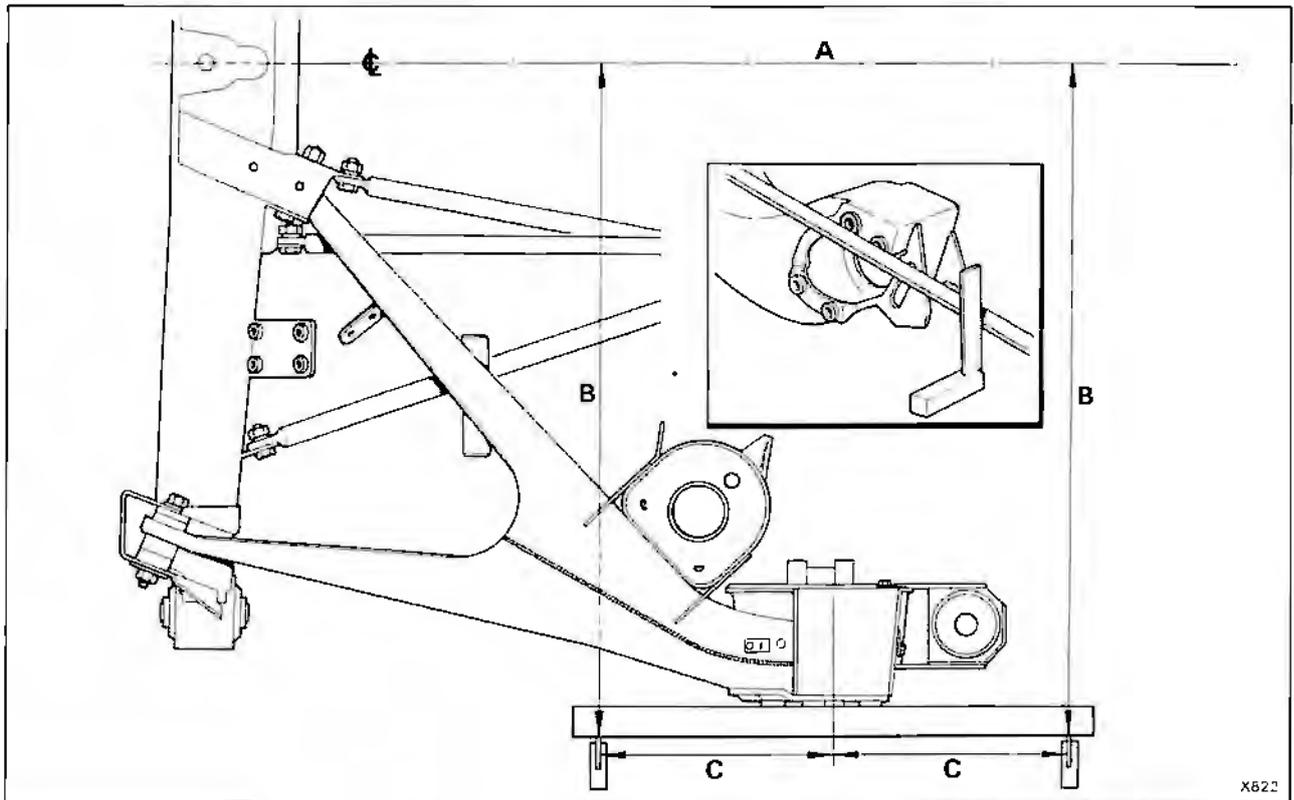

Fig. H11-4 Checking the toe-in setting
Toe-in – To check (see fig. H11-4)
3. Place a straight edge across the hub mounting tubes to give the equivalent of the road wheel rim diameter (see fig. H11-4).
With the aid of a precision square positioned 208 mm (8.20 in) from the centre line of the hub (see fig. H11-4), measure the distance from the base of the square to the centre line marked on the table.